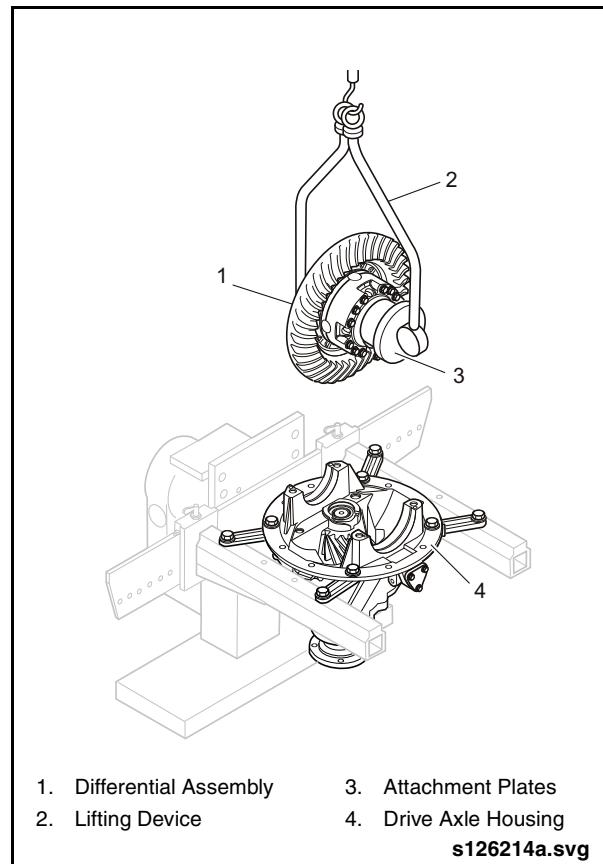

Fig. 2-48: Removing Differential Assembly
1. Use a hoist with Lifting Device (Item 47 from Special Tools List) and Attachment Plates (Item 49 from Special Tools List) to lift the differential out of the axle gear housing. See “Fig. 2-48: Removing Differential Assembly” on page 45.